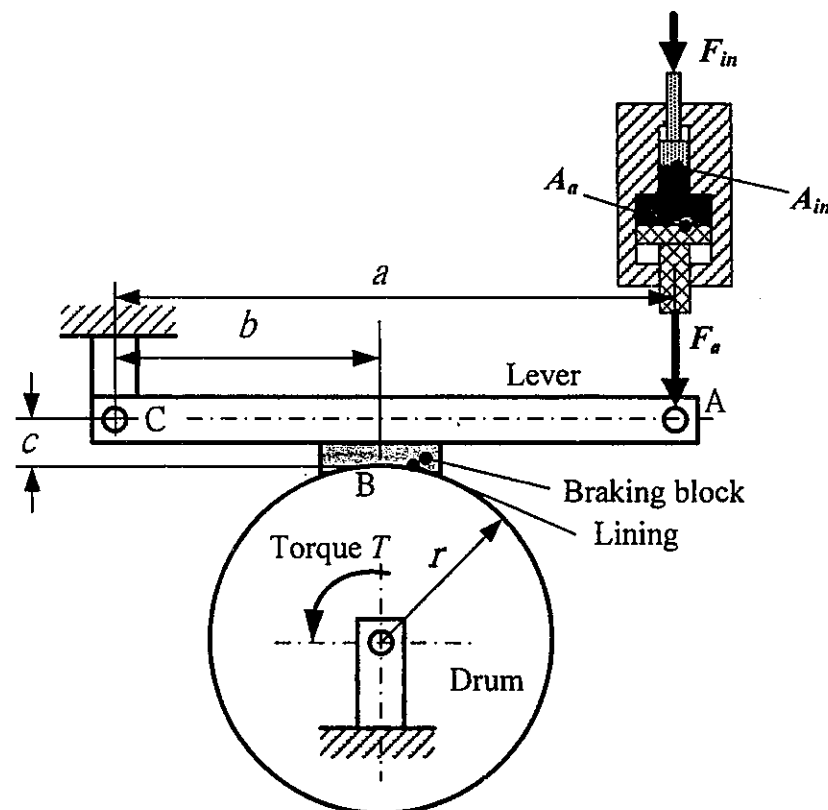

Fig.4 Block brake
4. A block brake with the hinge location C is shown in Fig.4. The friction coefficient between lining and drum is  $\mu$ .